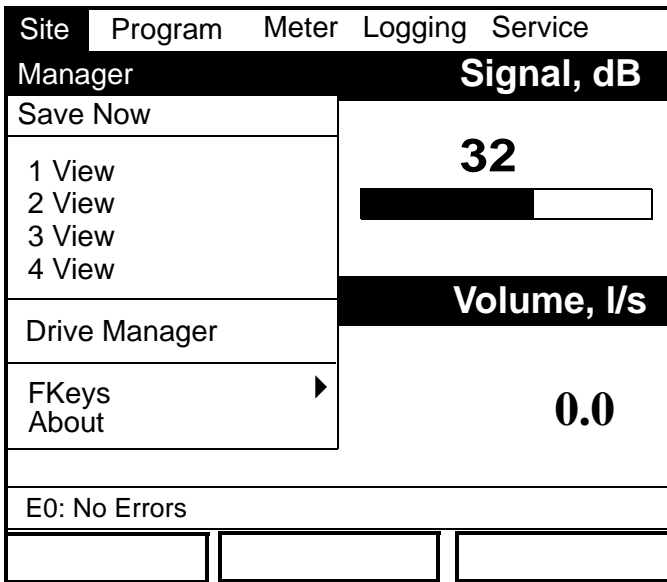
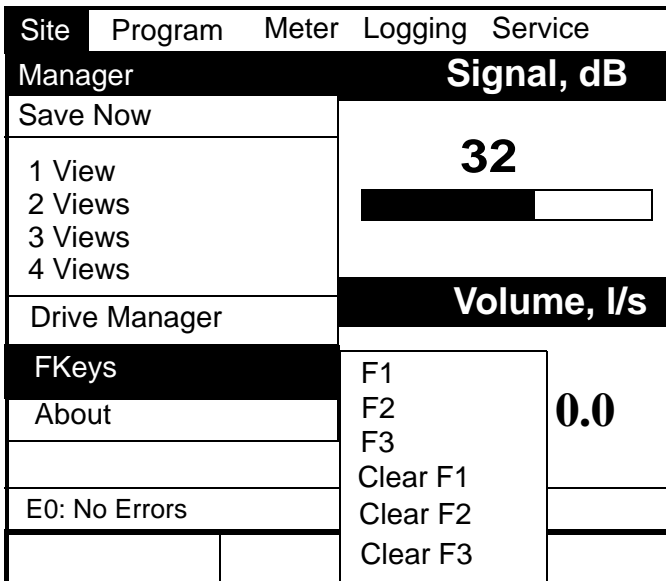
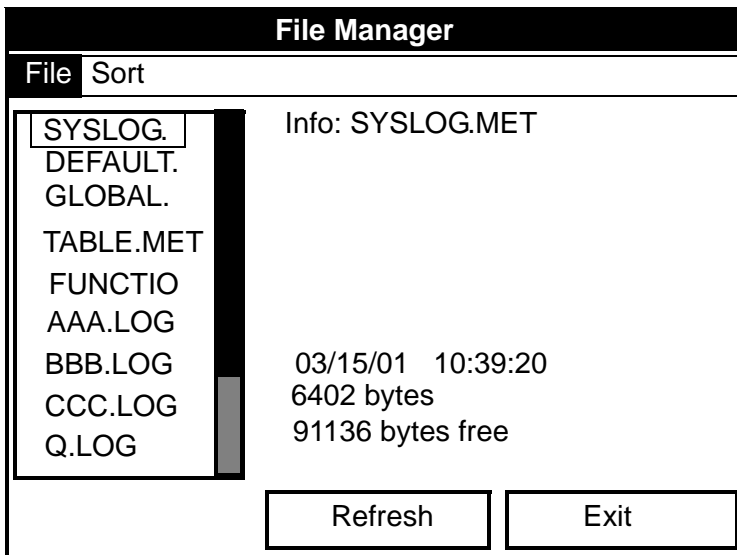

Figure 59: Site Menu
Figure 61: FKeys Menu
Figure 64: Drive Manager Window
To enter the Site Menu, press the [MENU] key at the lower right of the PT878 keypad. The Menu Bar replaces the Status Bar at the top of the screen. The Site Menu will be highlighted in the upper left corner. Press [ENTER] or the [▼] arrow key. The screen now appears similar to Figure 59 below. While following the programming instructions, refer to Figure 138 on page 221 of Appendix A, *Menu Maps*.
As mentioned earlier, the PT878 can display one to four different measurement parameters simultaneously. However, sometimes you might wish to display only one or two parameters. To change the number of open display windows from within the Site Menu (shown in Figure 59 on page 97), use the [▼] or [▲] arrow keys to move to the desired number of views (1 View, 2 Views, etc.) Press [ENTER].
- From the Site Menu (shown in Figure 59 on page 97), use the [▼] or [▲] arrow keys to move to the FKeys entry on the menu. Press [ENTER]. The screen now appears similar to Figure 61 below.
- From the Site Menu (shown in Figure 59 on page 97), use the [▼] or [▲] arrow keys to move to the FKeys entry on the menu. Press [ENTER]. The screen now appears similar to Figure 61 on page 99.
2. From the Site Menu (shown in Figure 59 on page 97), use the [▼] or [▲] arrow keys to move to the Drive Manager entry on the menu. Press [ENTER]. The screen now appears similar to Figure 64 below.